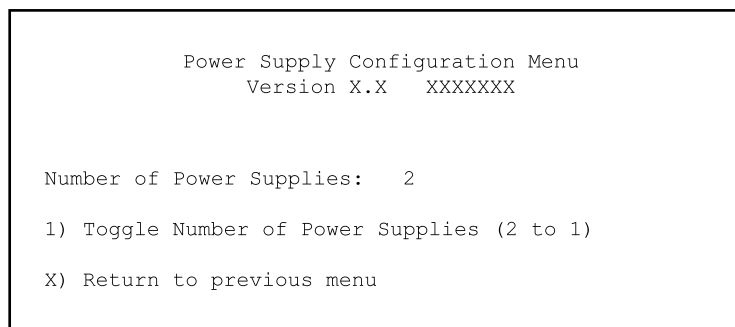

Figure 100: Power supply configuration menu
In the Configuration Menu, select **Power Supply Configuration (8)** to change the indicated number of installed power supplies. Figure 100 is an illustration of the Power Supply Configuration Menu.